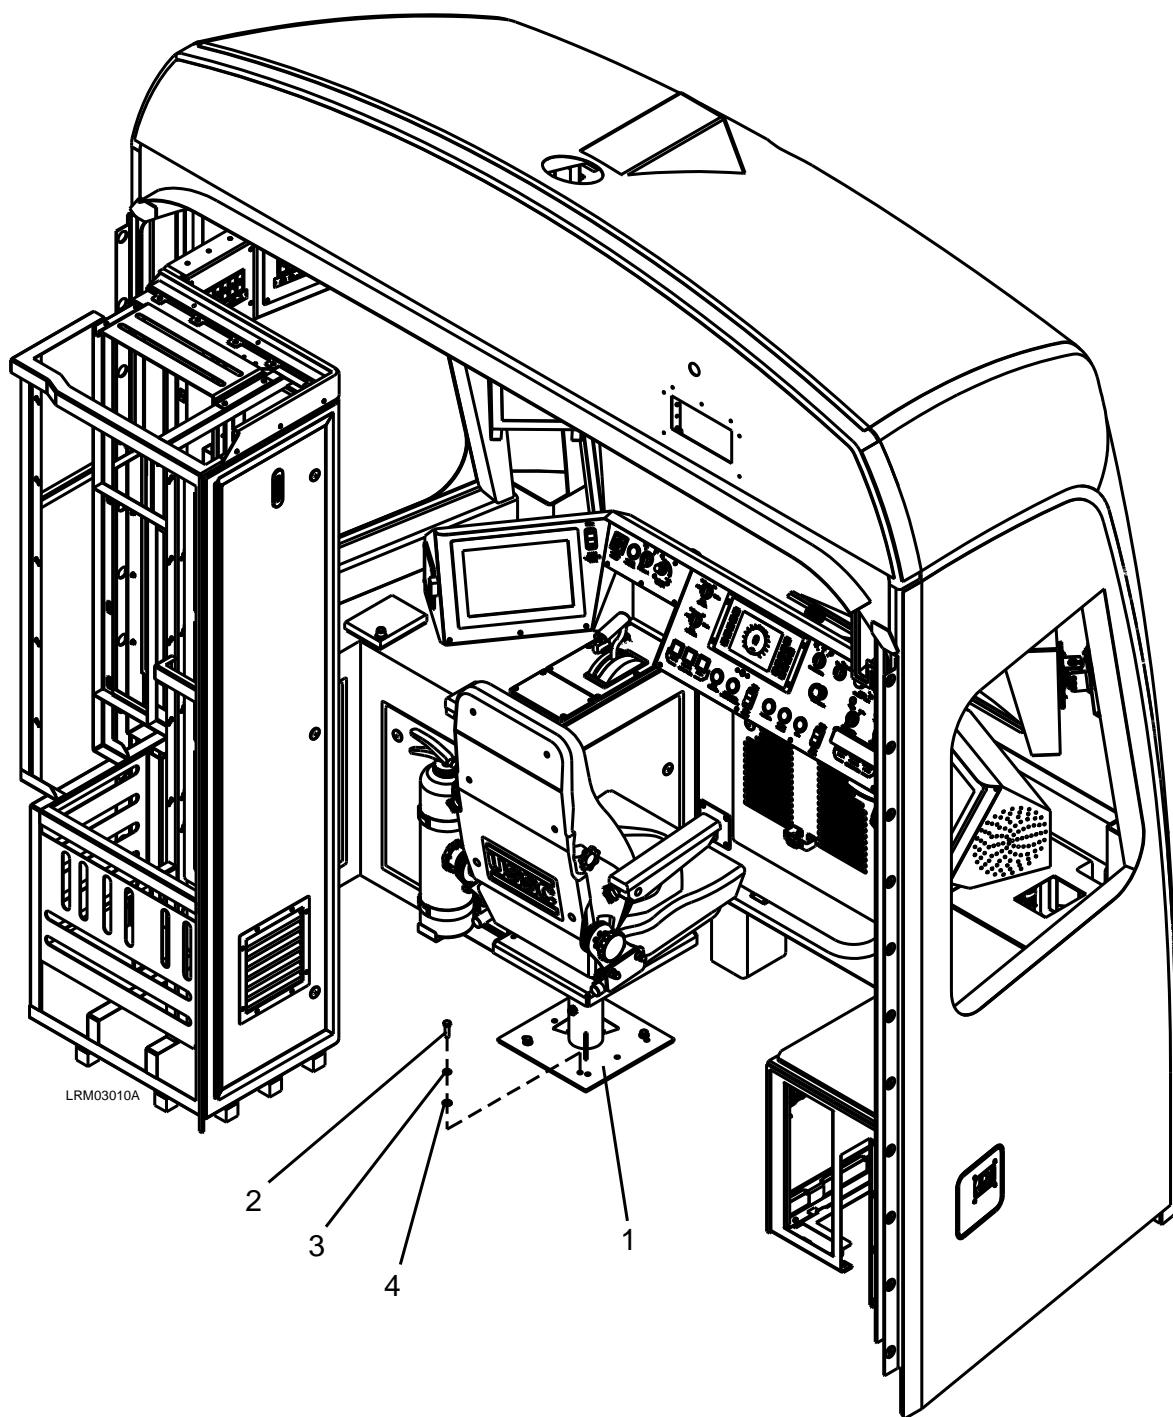

Figure 7-9: Operator's Seat
1. Remove the four M10 x 35 bolts (2), M10 lock washers (3), and M10 plain washers (4). See Figure 7-9.
2. Carefully remove the seat (1).